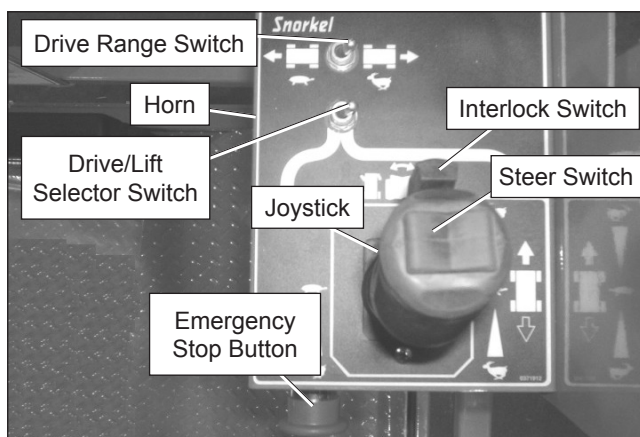

Figure 9.3 – Upper Controls
4. From the upper controls, pull the emergency stop button outward (refer to Figure 9.3).
1. Place the drive/lift selector switch (refer to Figure 9.3) in the lift position.
1. Place the drive/lift selector switch (refer to Figure 9.3) in the drive position.